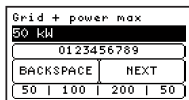

fig. 9: Maximum consumed active power
3. Enter the maximum active power which may be consumed from the grid.^(1, fig. 9)